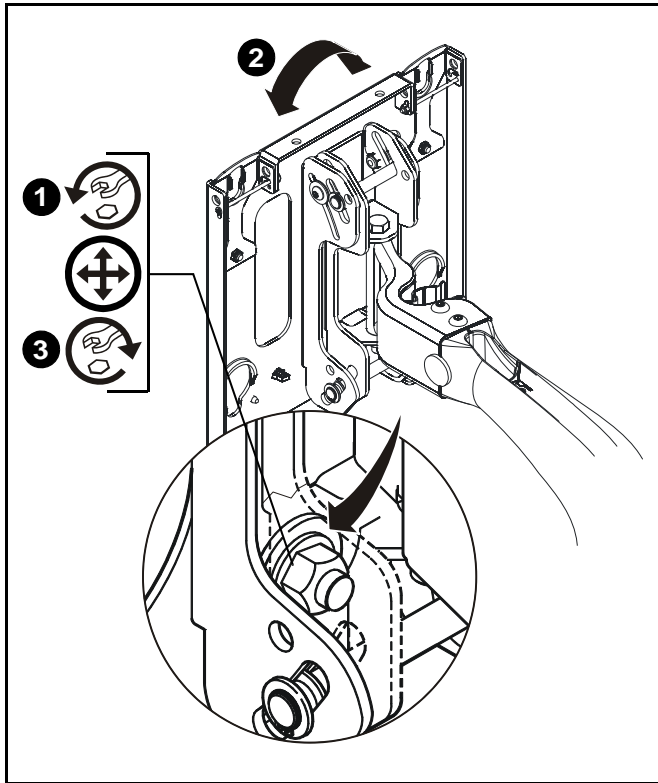

Figure 13
1. Loosen the roll tension adjustment nut located on the back side of the faceplate assembly. (See Figure 13)
3. Tighten roll tension adjustment nut. (See Figure 13)